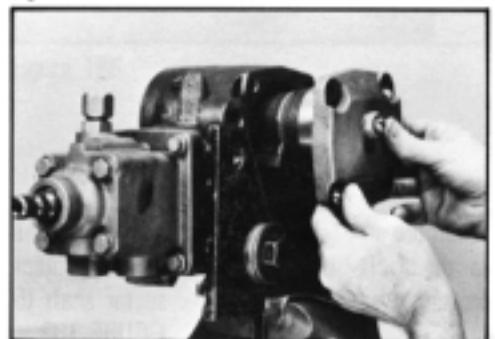

Figure 157
50. Remove any old tape from sector shaft (51) serrations and apply one layer of new tape to shaft serrations and bolt groove if necessary to protect seal. Install sector shaft and side cover assembly into housing (55). The sector shaft center tooth space as indicated by the timing mark on the end of sector shaft must engage the rack piston (39) center tooth. SEE FIGURE 157.